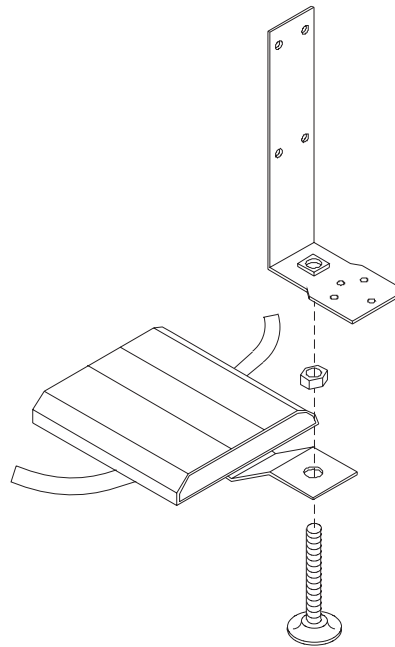

FIG. 1
6. Peel back all four ends of the two double stick tape strips on the bottom of the threshold about 2". The tape covers will be peeled off as a final step to help adhere the threshold to the floor (Fig. 1).